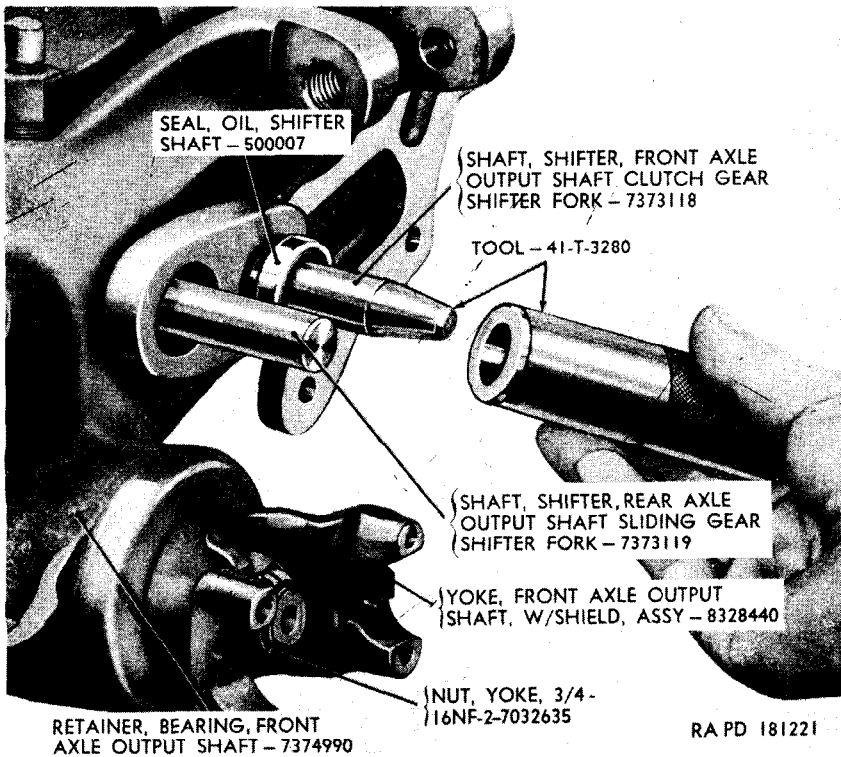

Figure 85. Installing transfer shifter shaft oil seal.
b. *Install Shifter Shaft Oil Seals.* Using tool 41-T-3280 in the manner illustrated in figure 85, install the two shifter shaft oil seals (R and S, fig. 74) on the front axle output shaft clutch gearshifter fork shifter shaft and rear axle output shaft sliding gearshifter fork shifter shaft.